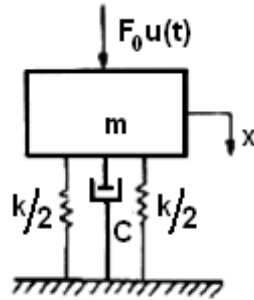

Figure 9:
8. A spring-mass system is shown in figure 9. If the system is initially relaxed and a step-function excitation is applied to the mass, find the response of the system.